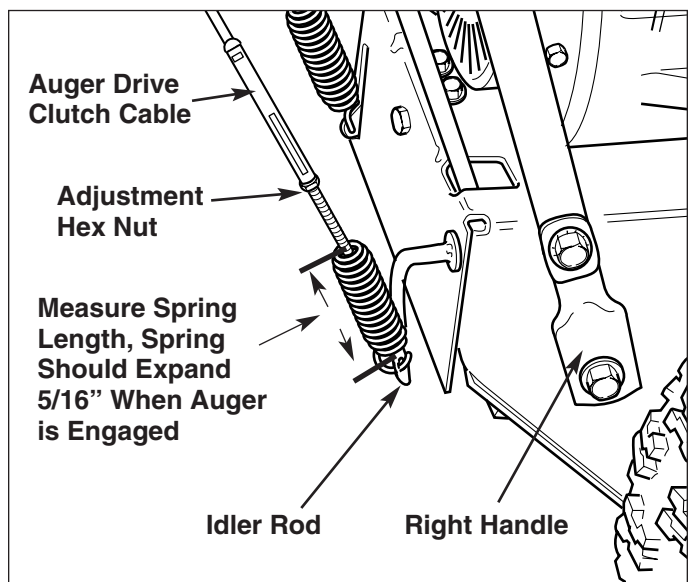

Figure 26. Auger Drive Clutch Cable
2. Check that there is no slack in the auger drive clutch cable (see Figure 26). If there is, follow the auger drive clutch cable Adjustment procedure on page 24.
3. Measure the length of the auger drive clutch spring (Figure 26).